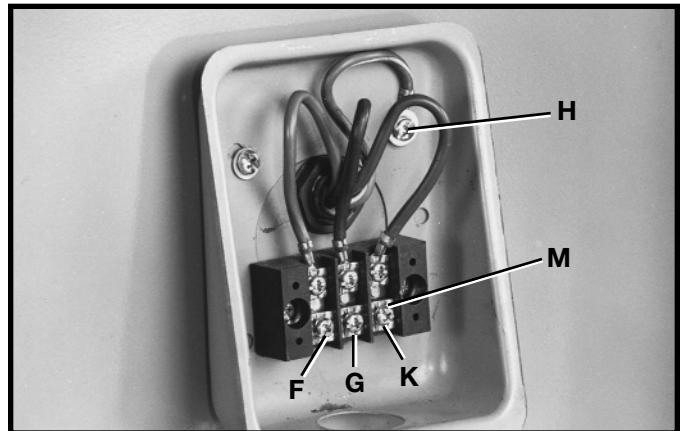

Fig. 12
2. Connect the three power lines to terminals (F), (G), and (K) Fig. 12, and the green ground wire to terminal (H). After applying power to the machine, jog the power on and off to check if the machine is rotating correctly. If the cutterhead is not rotating correctly, interchange any two of the three power lines connected to terminals (F), (G), and (K).